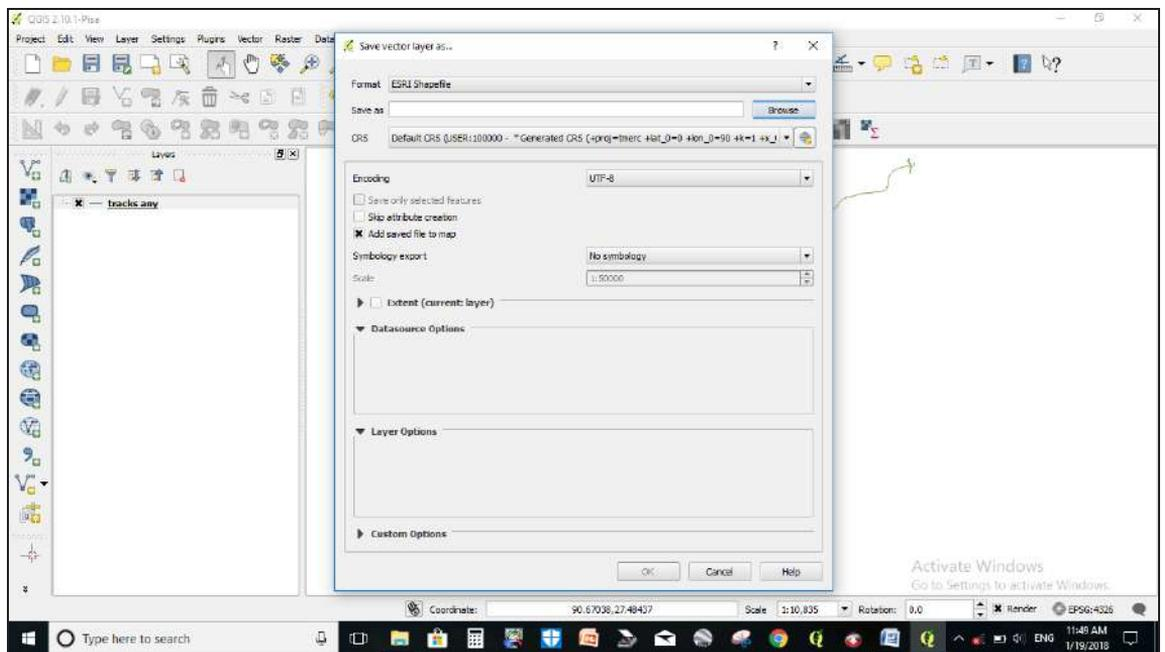

Figure 4e
f. Select the CRS format as shown and save the file in the designated directory (figure 4e below).